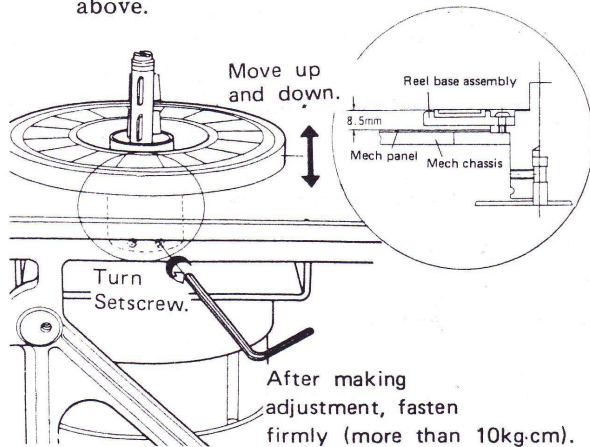

Fig. 18
2. Loosen screw to allow a clearance of 8.5mm between the mech panel and reel base as in Fig. 18.